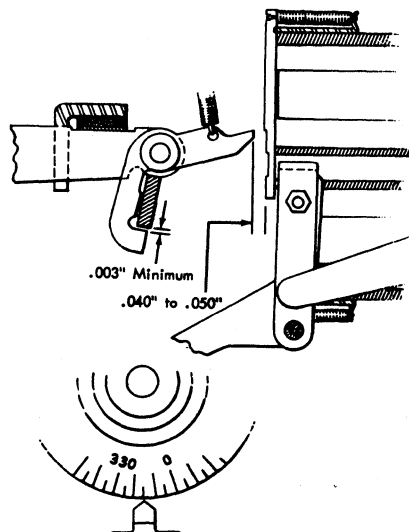

Figure 50. Unlatched Clearance Check
2. The heels of the latching end of the interposers have been ground away to avoid contact with the opposite side of the notch in the armatures. Shift the magnet unit toward or away from the interposers to obtain .040-inch to .050-inch clearance (Figure 50). On units with interposers that are not ground away, this clearance is to be .025-inch to .030-inch.